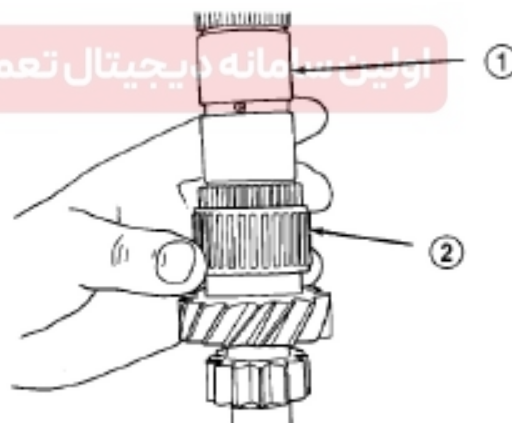

Figure 3-134 Needle bearing of the third gear
(1) Mount the input shaft on the press.
(2) Assemble third gear's needle bearing (Figure 3-134).